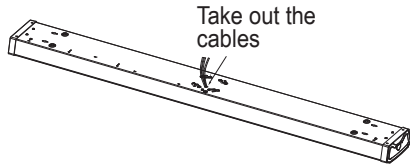

Figure 7
1. Use a screwdriver to punch out one of the knocked holes (Figure 7) and take out the cables through the knockout hole from the lamp base.